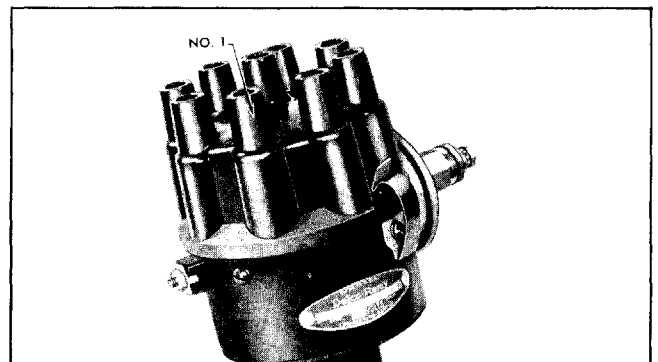

Fig. 12-56 Location of No. 1 Spark Plug Cable Terminal
6. Install spark plug wires in distributor cap. Place wire for No. 1 cylinder in tower shown in Fig. 12-56 (marked on old cap during disassembly) then install remaining wires counterclockwise around the cap according to the firing order (1-8-4-3-6-5-7-2).